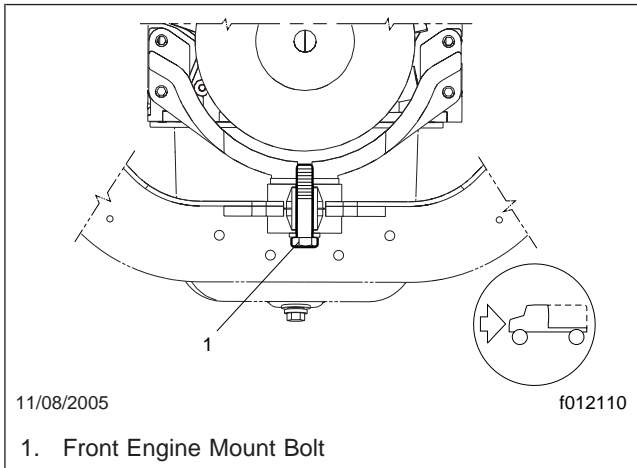
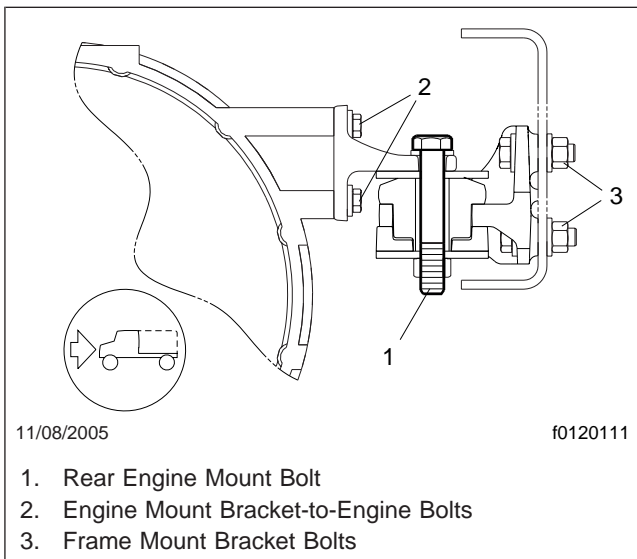

Fig. 3, Front Engine Mounts (ISB-02 chassis built after 2002)
Fig. 4, Rear Engine Mounts (ISB-02 chassis built after 2002)
- Check the 3/4-10 front engine-mount bolt. Tighten it 95 lbf-ft (128 N·m). See Fig. 3 and Fig. 4 for the front and rear engine mounts on the front-engine diesel chassis.